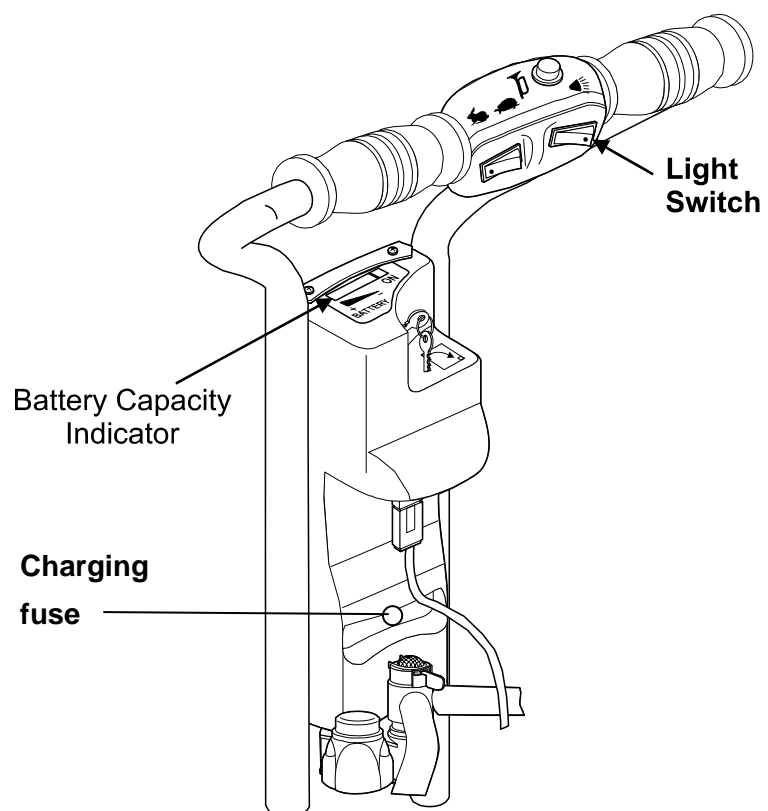

Figure 12.
3.7 **Lights Operating (See Fig. 12)**
3.8 **Battery Capacity Indicator (See Fig. 12)**